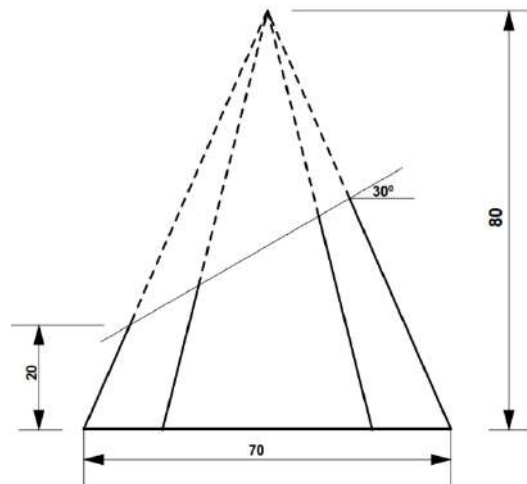

Fig. 3
13. Figure 3 shows the front elevation of a truncated hexagonal pyramid. Draw the;